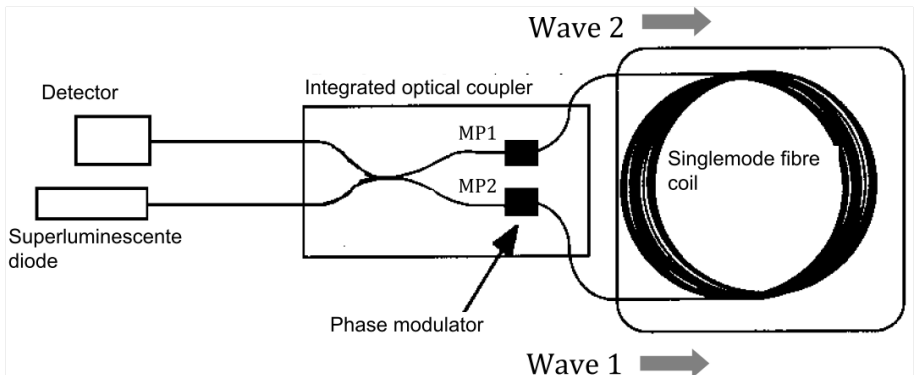

Figure 2.4 – Interferometric fiber gyroscope architecture.
- Suppose that at $t = 0$, we apply an appropriate voltage to modulators MP1 and MP2 (see Fig. 2.4), then two initial wave packets propagate through the modulators and respectively acquire the phases :